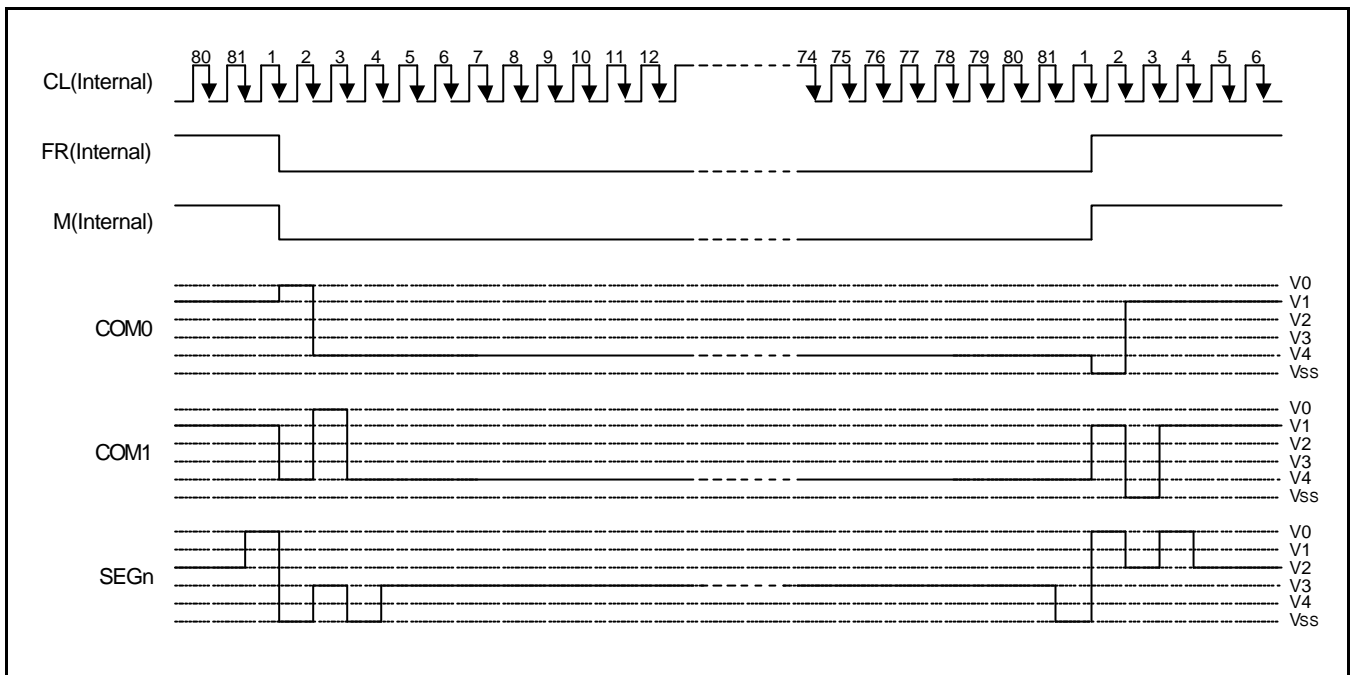

Figure 13. 2-frame AC Driving Waveform (Duty Ratio = 1/81)
This circuit generates some signals to be used for displaying LCD. The display clock, CL(internal), generated by oscillation clock, generates the clock for the line counter and the signal for the display data latch. The line address of on-chip RAM is generated in synchronization with the display clock and the display data latch circuit latches the 128-bit display data in synchronization with the display clock. The display data, which is read to the LCD driver, is completely independent of the access to the display data RAM from the microprocessor. The display clock generates an LCD AC signal (M) which enables the LCD driver to make a AC drive waveform, and also generates an internal common timing signal and start signal to the common driver. The frame signal or the line signal changes the M by setting internal instruction. Driving waveform and internal timing signal are shown in Figure 13.